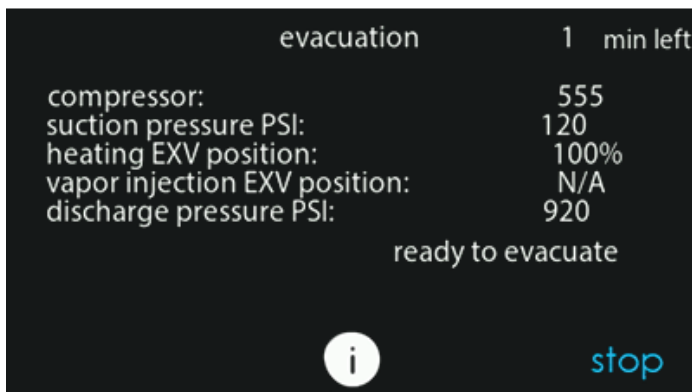

Fig. 53 – Evacuation Status Screen
5. Begin evacuation or refrigerant recovery as required for the procedure after Infinity® System Control indicates the EXV is open. Power may be removed from heat pump after the Infinity® System Control indicates “READY TO EVACUATE.” See Fig. 53.